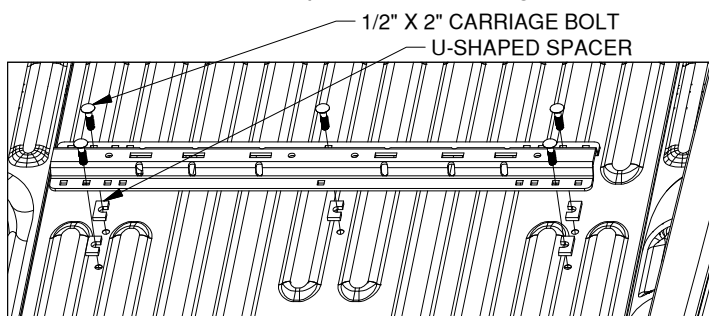

Figure B1: View looking into truck bed from rear of truck.
1. **The forward mounting rail.** Re-position the forward mounting rail over the drilled 9/16" holes in the bed. Place a 1/2" X 2" carriage bolt through the mounting rail and into each of the 5 drilled locations. Place a U-shaped washer between the bed and the mounting rail at the five drilled positions, see Figure B1.